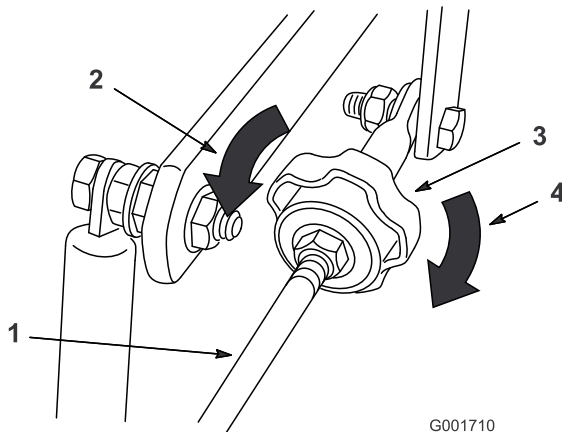

Figure 57
4. To make the machine go right, turn the knob towards the rightside of the machine. Refer to Figure 57.
5. To make the machine go left, turn the knob towards the leftside of the machine. Refer to Figure 57.